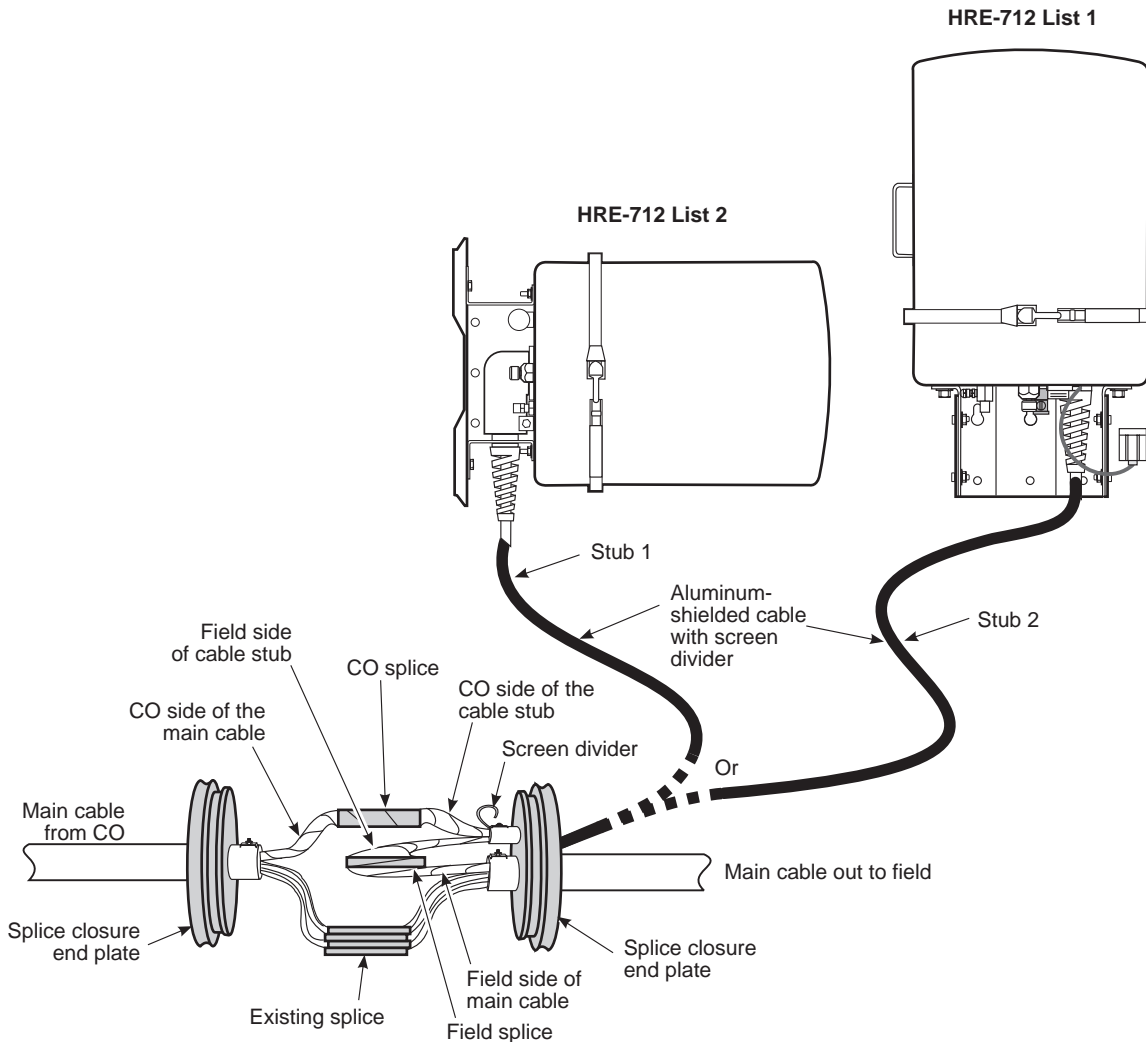

Figure 12. Post-Splicing Procedure
- 1 Starting at the cable stub butt of the CO cable stub, wrap the pairs on one side of the screen with $\frac{3}{4}$ -inch, self-bonding rubber tape. Overlap the tape by one-half its width, as shown in Figure 12.
- 3 Starting at the cable stub butt shown in Figure 12, wrap the pairs on one side of the screen with 2-inch, pressure sensitive, aluminum tape. Overlay the tape by one-half its width and form the tape in place. Aluminum tape provides electrical isolation from outside EMI sources. For these applications, dress out the splice per local practices.